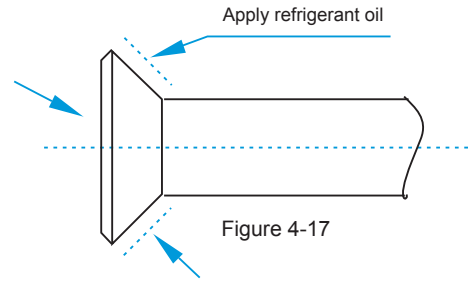

Figure 4-17
- Before the socket cap is installed on the pipe socket, apply some refrigerant oil on the socket (both inside and outside), and then rotate it three or four times before you tighten the cap. See Figure 4-17.